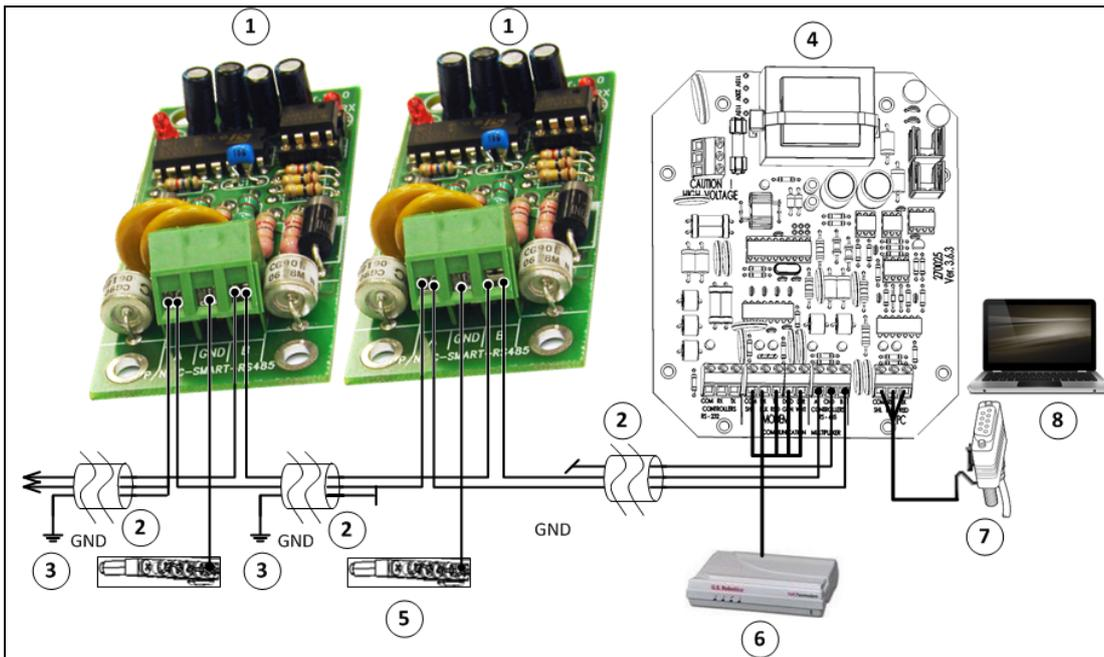

Figure 9: Smart C Communication RS-485 Wiring Diagram
- Figure 9: Smart C Communication RS-485 Wiring Diagram
Figure 9 key